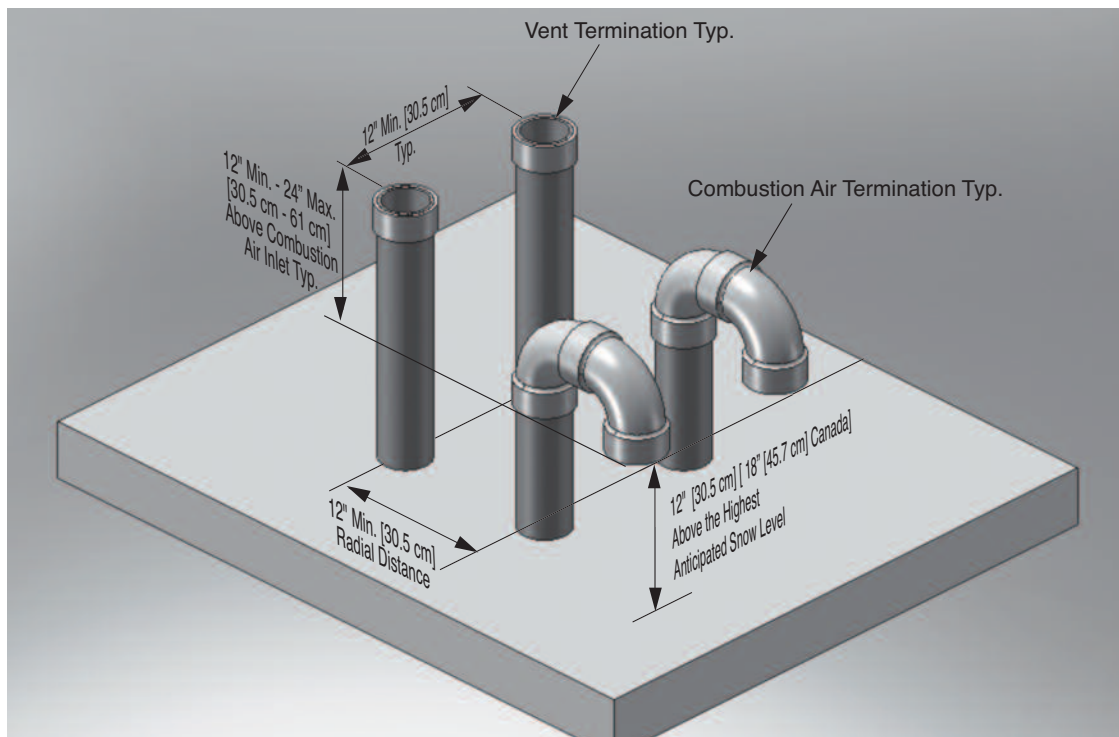

Fig. 7: Direct Vent - Vertical Termination of Multiple Appliances
2. The roof penetration of the vent and combustion air piping should be such that the combustion air inlet is a minimum of 12" [30.5 cm] from the adjacent vent pipe of the other appliance for installations in the U.S. as shown in Fig. 7 on page 12. For installations in Canada, provide clearances as required by CAN/CSA B149.1.